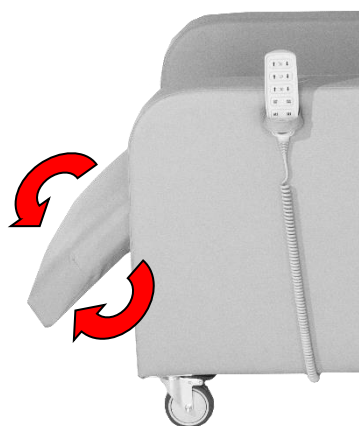

FIG 5
**3.5.2 Electric 3 Function Operated Models** – See **Figure 5**, and use the **handset** buttons on the 2nd row to either elevate or lower the leg rest to the desired position.